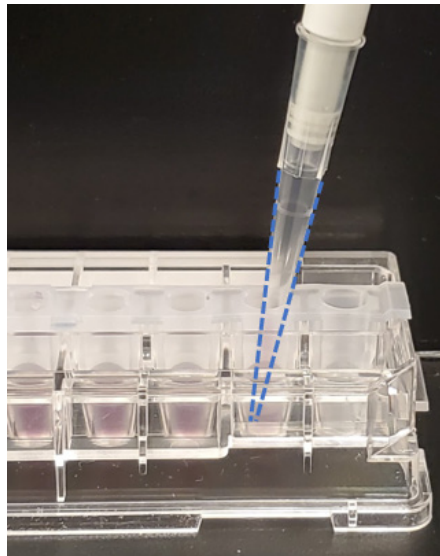

Figure 4. Pipette tip (outlines in blue) is inserted to the bottom of each well to dispense cell suspension.
- b. It is recommended to seed cells one well at a time in XF HS Miniplates – the pipette tip must be placed at the bottom of the well to dispense properly (Figure 4).